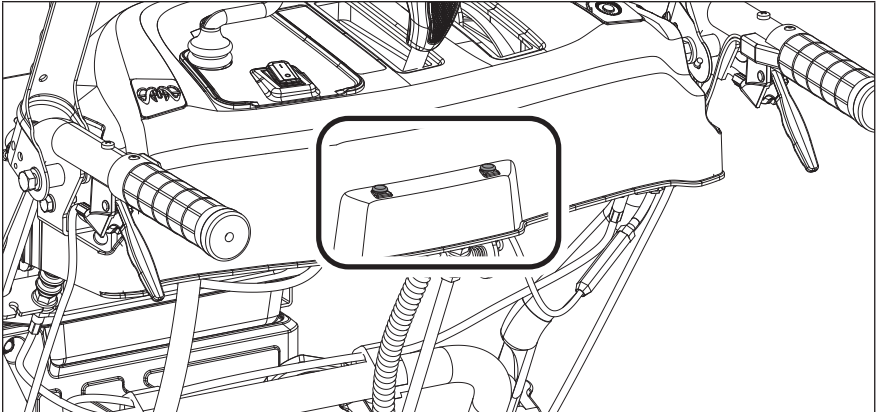

Figure 36
2. If the augers will not turn, check to see if the pins have sheared. Replacement shear pins and clips are found on the control panel and the manual bag. (Fig. 36)